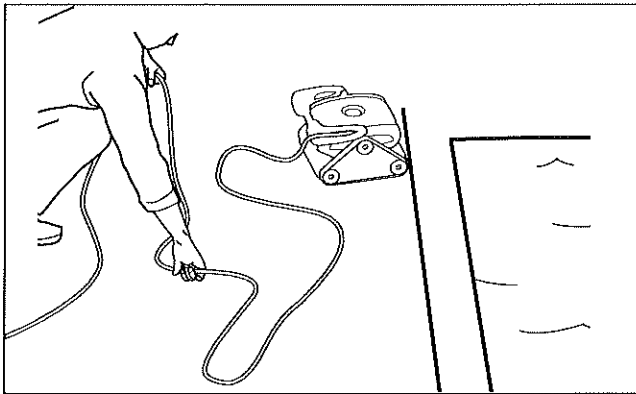

Figure 20. Untangle the Floating cable
1. Starting at the cleaner head, Remove all coils and tangles from the cable (see Figure 20).